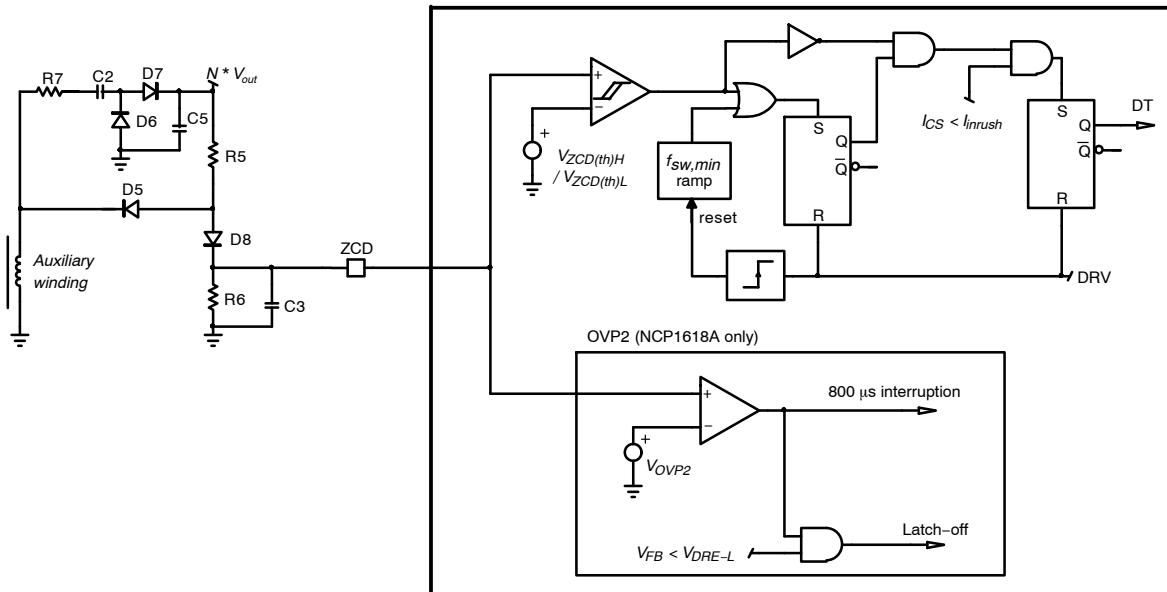

Figure 10. Zero Current Detection Block
Application note AND90011 discusses recommended circuitries for an accurate ZCD and OVP2 detections. Figure 10 provides one of these circuitries. In this circuit, R_7 being small, capacitor C_2 is charged to
Figure 10 shows how the NCP1618 detects the valley.
- The ZCD pin impedance (for instance R_3 of Figure 10), must be higher than $7.5\text{ k}\Omega$ not to trigger the ZCD pin short–to–ground protection.
If no ZCD can be detected when the circuit operates in FCCrM mode, the circuit cannot use the valley detection to start a new current cycle. In this case, the next DRV pulse is forced by the DCM minimum frequency ramp ($f_{sw,min}$ ramp of Figure 10) which acts as a watchdog.
- If the pin is grounded, no falling edge of the auxiliary winding can be detected. The DRV remains off until the DCM minimum frequency ramp initiates a new cycle. Before the new pulse is generated, the circuit senses the pin impedance by sourcing $250\text{ }\mu\text{A}$. No DRV pulses are generated until the pin voltage exceeds V_{ZCDH} . Hence, the part is inhibited when the pin is grounded. Not to trigger this protection, the pin impedance (for instance R_3 of Figure 10, must be higher than $7.5\text{ k}\Omega$).